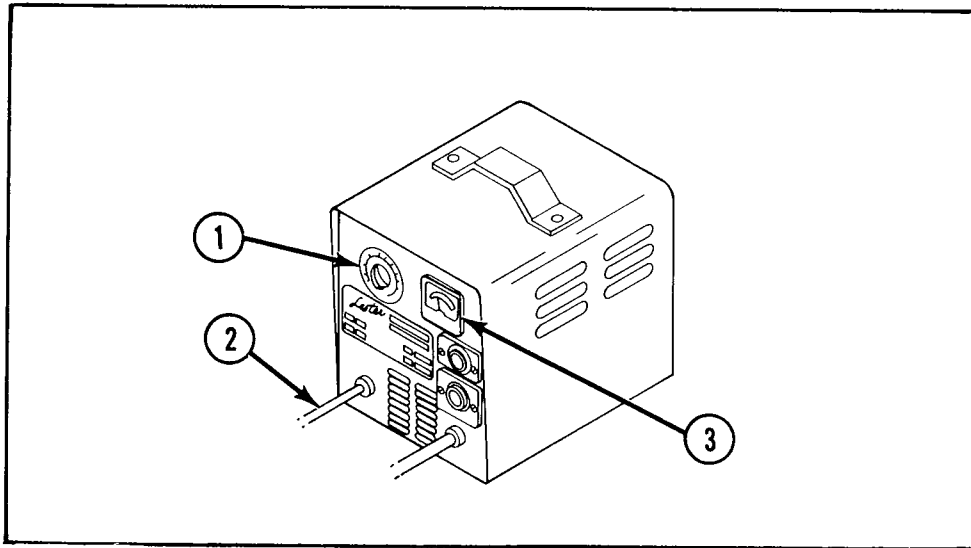

Figure 5-3. Battery Charger
- (2) Batteries and cables should be inspected periodically for signs of cracks in the cases, electrolyte leakage and corrosion of the terminals. Inspect cables for worn spots or breaks in the insulation and for broken cable terminals.
- (3) Clean batteries which show signs of corrosion at the terminals, or onto which electrolyte has overflowed during charging. Use a baking soda or ammonia solution to clean the batteries, taking care not to get the solution inside the cells. Rinse thoroughly with clear water. Clean battery and cable contact surfaces to a bright metal finish whenever a cable is removed.
b. BATTERY CHARGING (See Figure 5-3).
- (1) Charge batteries at end of each work shift or sooner if batteries have been discharged.